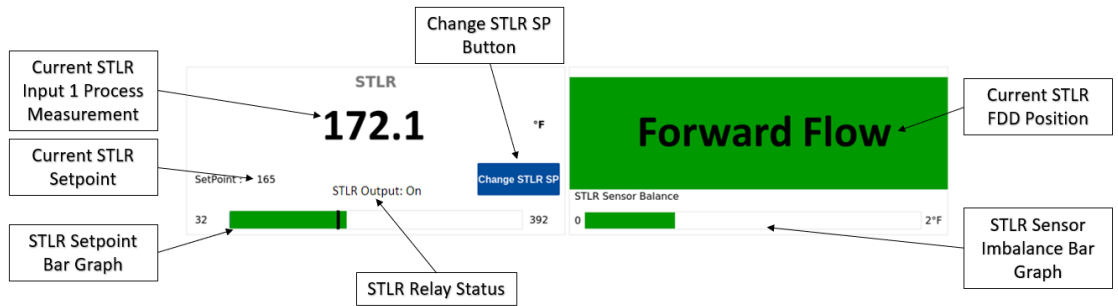

Figure 45: STLR Application Home Screen
**STLR Only:** When PPR is configured for STLR applications the home screen space typically reserved for Inputs 1 and 2 will automatically be updated to display as shown in Figure 45 below.